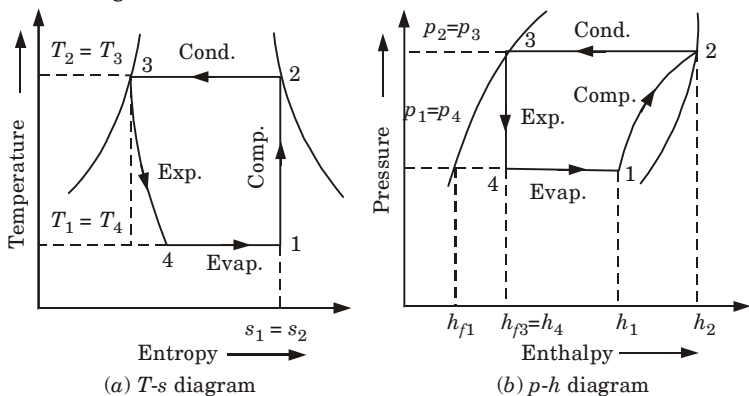

Fig. 17. Theoretical vapour compression cycle with dry saturated vapour after compression.
1. The four process of the cycle is shown on T - s and p - h diagrams in Fig. 17(a) and (b).